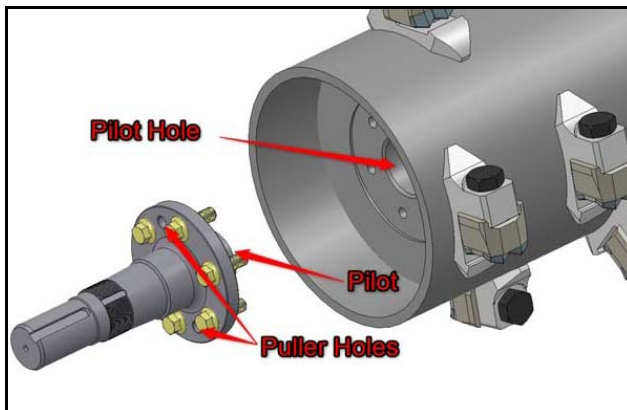

Figure 25
3. Remove all M16 fasteners off the stub shaft [Figure 25].